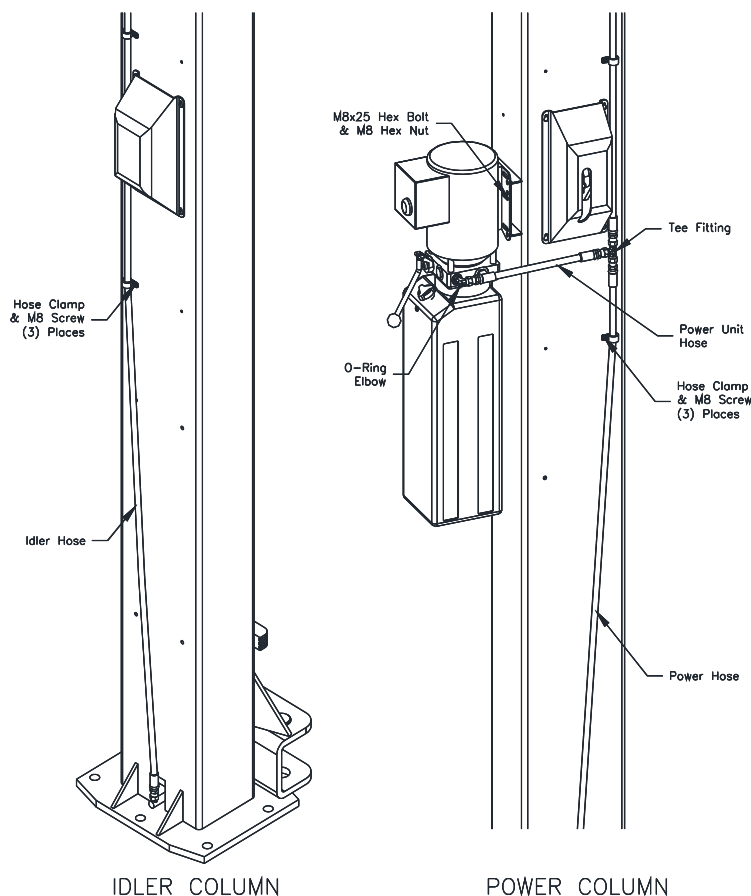

**Fig. 6 – Synchronizing Cables**
- 16) Attach one end of synchronizing cable to carriage. See **Fig 6** for proper attachment.
- 17) Route cable up and over sheave in overhead. Follow across to other sheave on opposite column. Route down through carriage to sheave in bottom of column. Route under sheave and up to cable attachment. Use **Fig 6** for proper attachment.